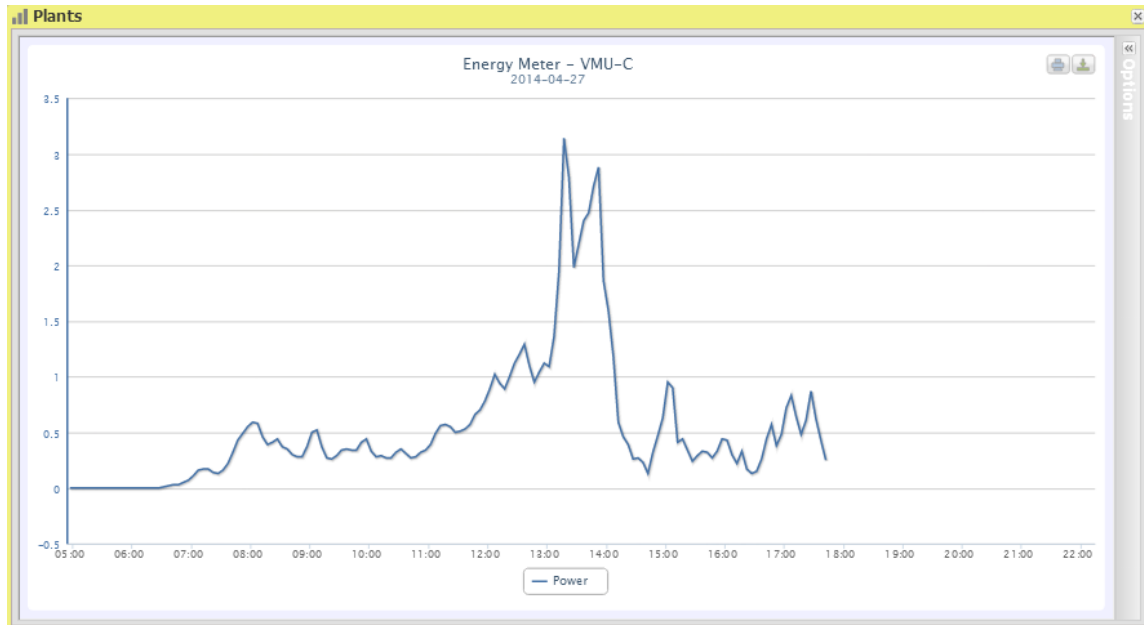

Figure 18: Plant Window; Energy Meter Chart– Option Selection for Total Energy Meter.
- b. “*AC power*”: Power in alternating current expressed in kW. Through the menu shown in Fig.18 you can set the data source. The AC power data can be read from: